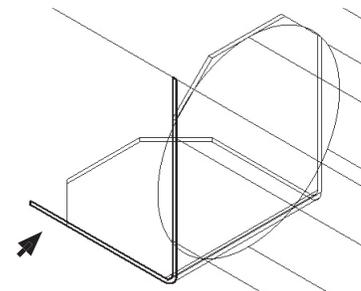

Fig. 42
Step 7. Click L-bracket original geometry (not the solid), **Fig. 42**.